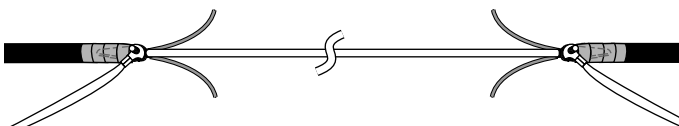

Figure 37
7.24 Ground the armor by apply grounding clips on both exposed ends as described in section 5 (Figure 37).